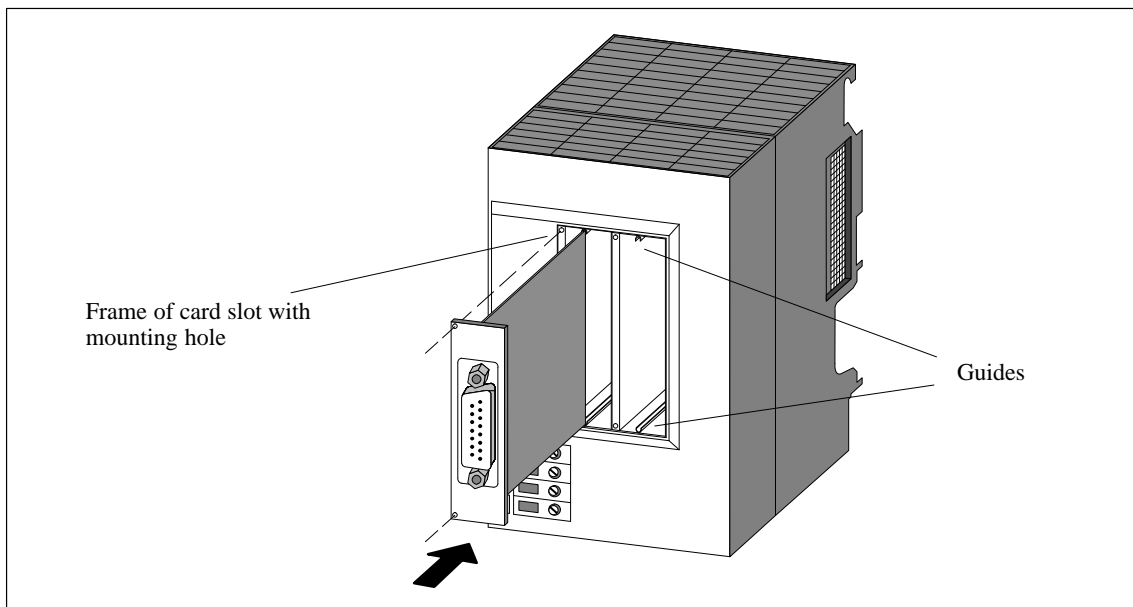

Figure 5-8 Inserting an Interface Submodule in an Expansion Module
3. Insert the card end of the interface submodule into the lower and upper guides of the card slot, as shown in Figure 5-8.